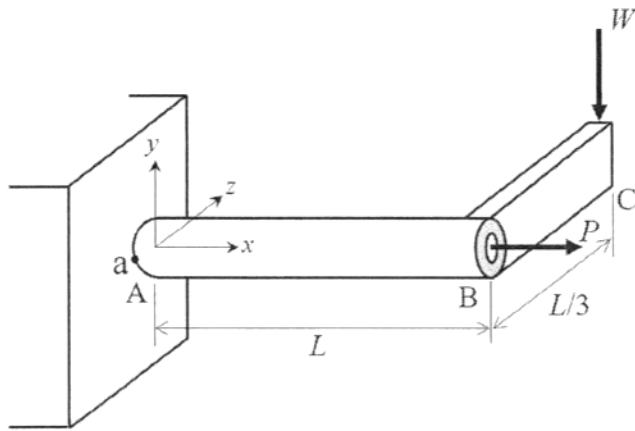
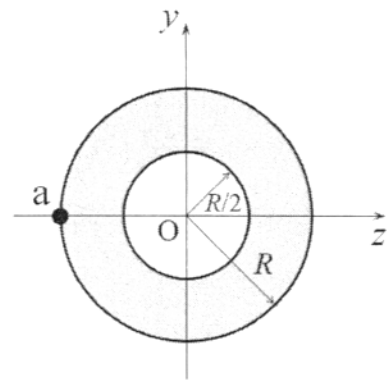
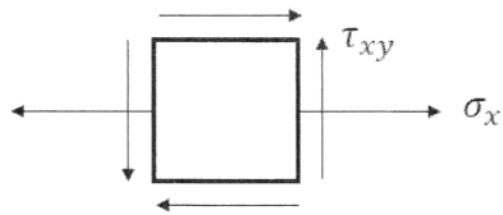

Figure 1-1
Figure 1-2
Figure 1-3
I. As shown in Figure 1-1, a uniform cross-section beam BC of length $L/3$ is attached at a right angle to the end B of a uniform cross-section cantilever beam AB of length L . A concentrated load W is applied at the end C of the beam BC in the negative y -axis direction. A load P is applied to the cross-sectional area at the end B of the cantilever beam AB in the x -axis direction. The central axis of the beam BC before applying the concentrated load W is parallel to the z -axis and in the xz -plane. As shown in Figure 1-2, the cantilever beam AB has a circular cross-section of radius R and has a longitudinal hole of radius $R/2$. The length L of the cantilever beam AB is much larger than the radius R . Answer the following questions.
- (1) Find the I_y , I_z and I_p for the cross-sectional area of the cantilever beam AB. Here, I_y and I_z are the moment of inertia of area about the y - and z -axis, respectively. I_p is the polar moment of inertia of area about the centroid O.
- (2) Figure 1-3 shows the state of stress at the point a on the fixed end of the cantilever beam AB. Find the normal stress σ_x and the shear stress τ_{xy} at the point a.
- (3) Find the maximum principal stress and the maximum shear stress at point a on the fixed end of the cantilever beam AB.